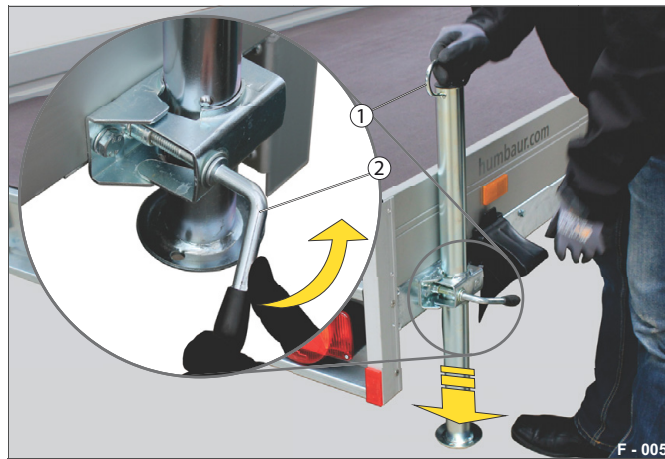
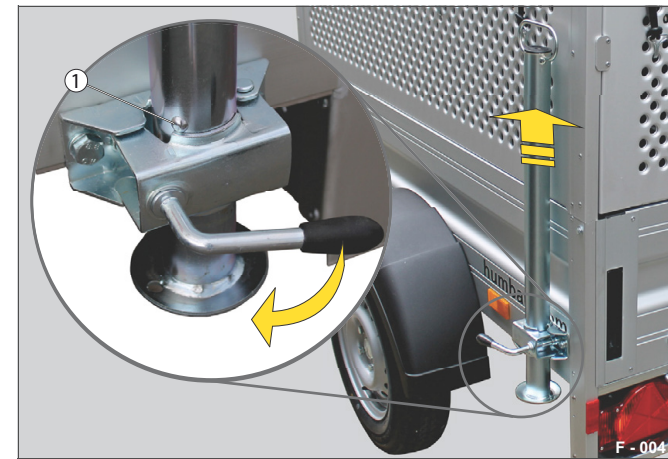

Fig. 26 Lowering prop stands
Fig. 27 Raising (driving position)
- Unscrew the T-handle (Fig. 26 /2). While doing so hold the prop stand (Fig. 26 /1) on the handle.
- Unscrew the T-handle (Fig. 26 /2).
- Hold the handle and pull up the prop stand (Fig. 26 /1). The weld spot (Fig. 27 /1) should be at the edge of the clamp.